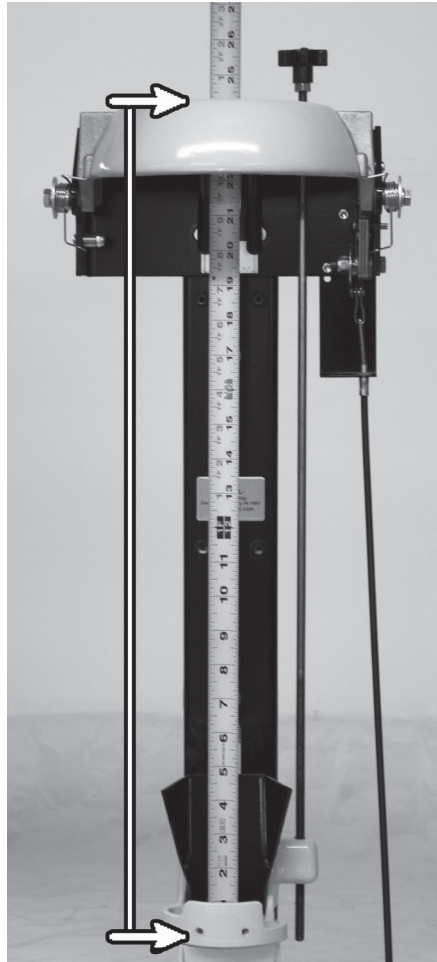

Figure 5
11. Measure the distance from the inside bottom of the Footplate to the inside top of the closed Top Clamp (*see Figure 5, page 11*). This distance should equal your overall length of the air cylinder plus 1/2". Use the Adjustment Rod Knob to turn the Footplate Adjustment Rod and achieve this measurement.